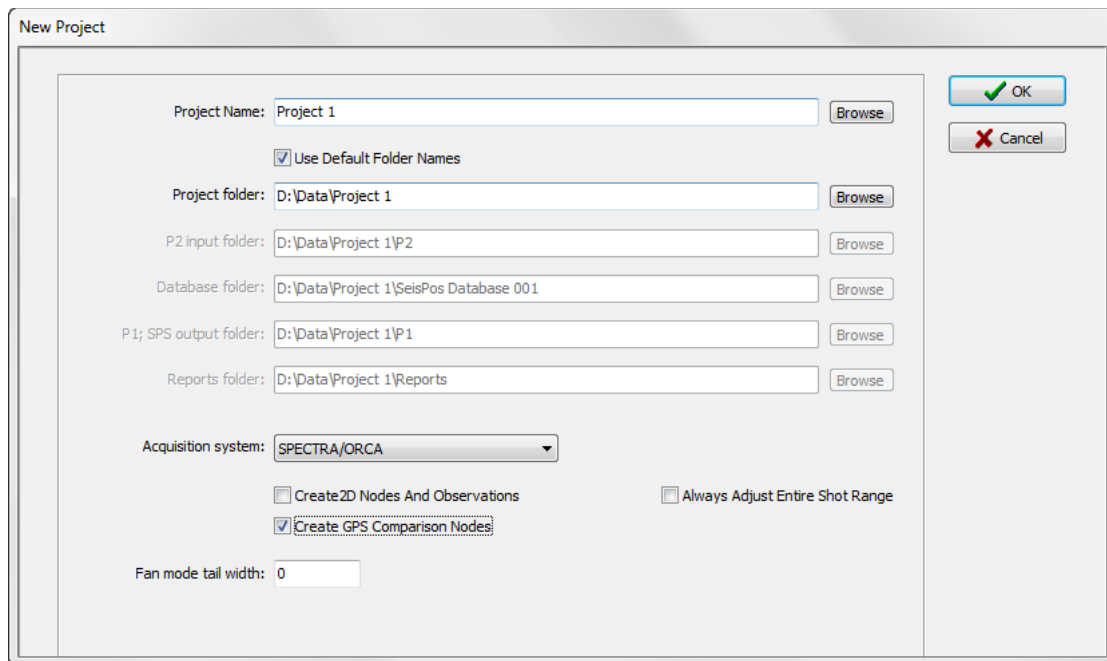

Figure 16-1: Quickstart – New Project
Upload progress is displayed, as shown in Figure 16.1. To abort the upload, click the *Abort File Transfer* button.
- b) Enter the project name and folder locations following the example shown in Figure 16-1.